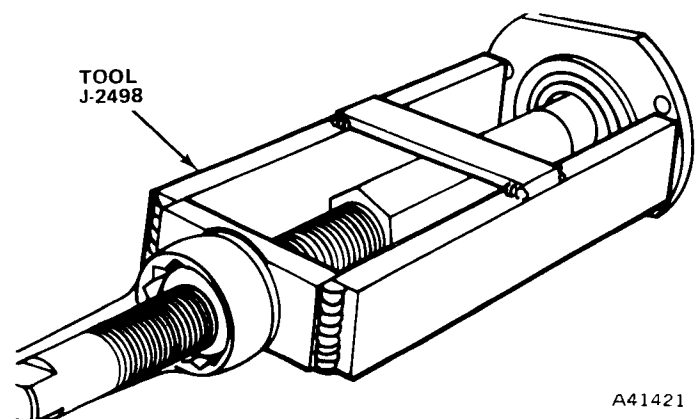

Fig. 10-19 Removing Axle Shaft
- (4) Use Axle Shaft Bearing Puller Tool J-2498 to remove axle shaft and bearing (fig. 10-19).
- (5) Remove and discard axle shaft inner oil seal.